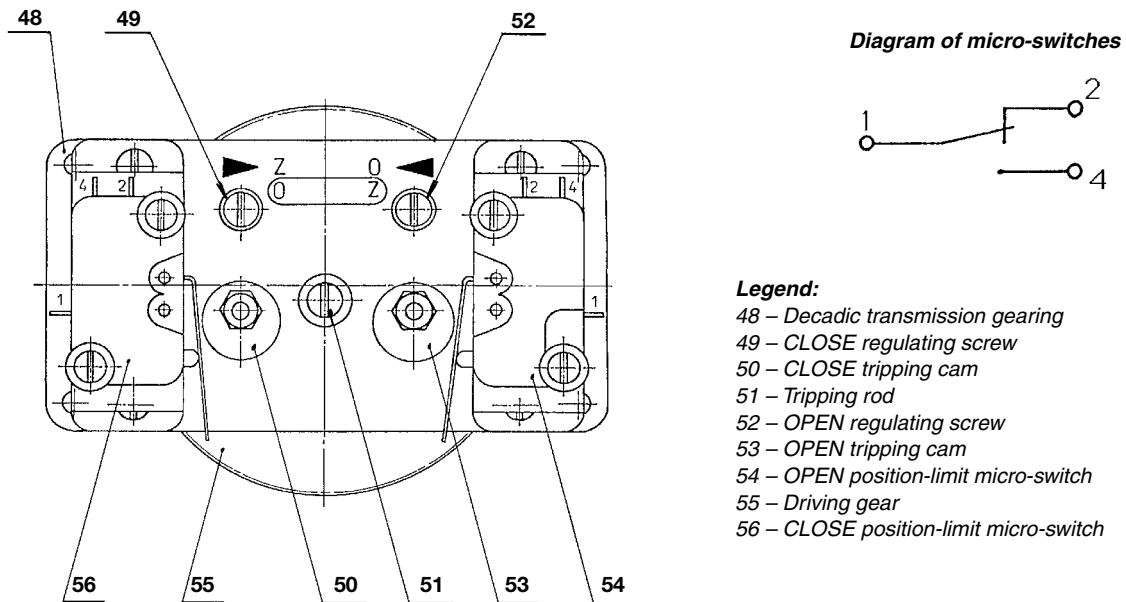

Fig. 5 – **Step-wise position-limit switching unit**
c) Position-limit switching unit (Fig. 5)
If, before readjusting, the cams are in the position shown in Fig. 5 or the cam has already depressed the micro-switch button, the following procedure of adjusting is preferred: